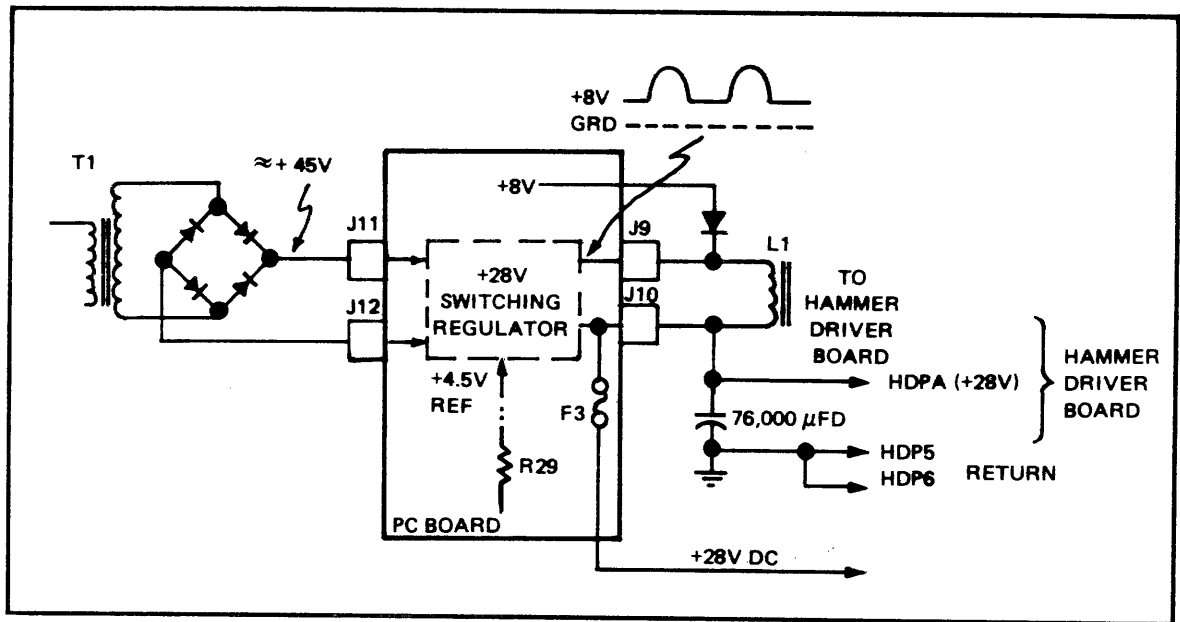

Figure 35 +28V DC Power Supply, Simplified Schematic Diagram
**+28V Regulator** – The unfiltered +45V is regulated by an SCR circuit which turns off and on at the level of each half-cycle that maintains the filtered +28V dc line at a constant level. The regulator is referenced to the 4.5V reference and is adjustable at the factory. Figure 35 shows elements of the +28V dc supply.